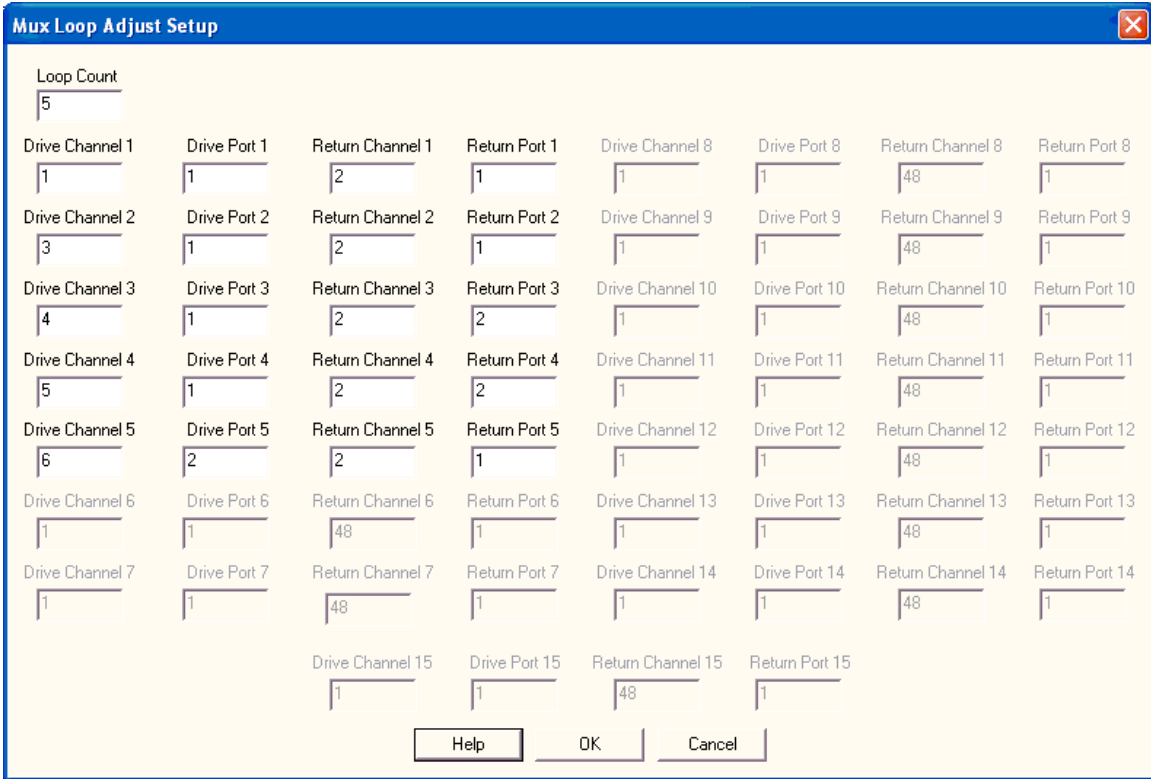

Figure E.6.1 - Branch Loop Multiplexer Adjustment Dialog.
Checking the *Adjust Mux in a Loop* control allows the Chamber Task to change the Multiplexer drive and return channels and ports during Branch Looping provided it is programmed into a Branch Loop. This, in turn, allows multiple capacitors to be fully measured automatically without reconfiguring the program or adjusting hardware. When the control is checked, the dialog in **Figure E.6.1** appears. This option allows up to fifteen loop cycles to be independently programmed. (Loop cycles exceeding fifteen will repeat the channel sequencing.). In the example samples 1 through 4 have their Drive Signal Connected to a common HVI attached to DB-25 port 1. Sample 5 is connected to a separate HVI attached to Port 2. Return signals for samples 1, 2 and 5 are common and connected to the same channel (2) of the HVI at port 1. Samples 3 and 4 also have common return signals connected to channel 2 of the second HVI at port 2.